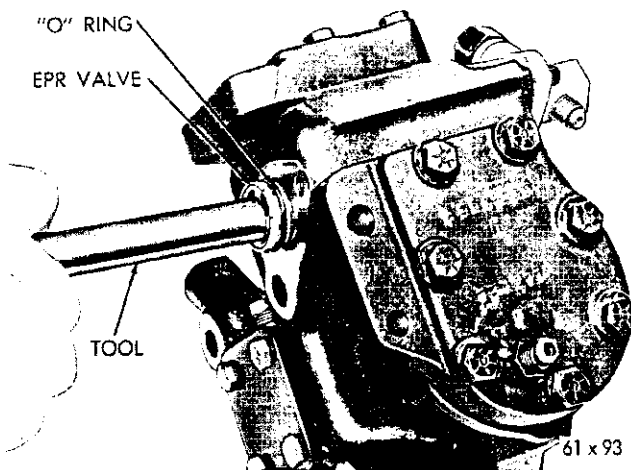

Fig. 42—Removing the EPR Valve
(1) Remove the two EPR Valve suction line fitting bolts, the fitting which also contains the compressor suction screen, spring, and the gasket.
(2) Remove the EPR Valve and "O" ring from the compressor using Tool C-3822, by rotating the valve counterclockwise slightly, as shown in Figure 42.